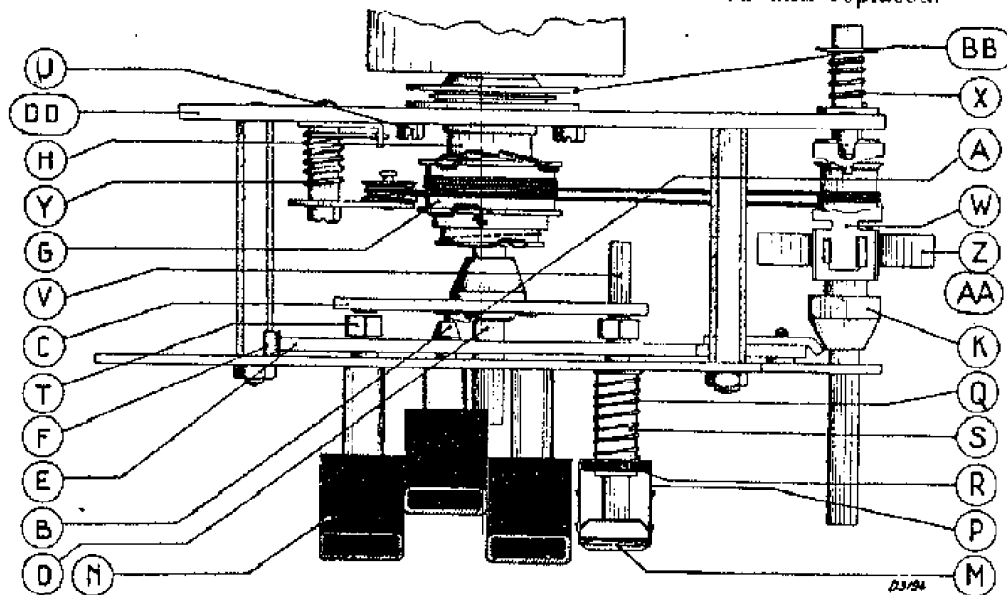

Fig. 8.
DESCRIPTION OF THE TUNING MECHANISM (Fig. 8).
5. Remove front plate taking care of spring F (Fig. 8).
4. Fork at the bottom of the variable condenser not gripping the fork on hollow spindle H (Fig. 8). See also renewal of variable condenser.